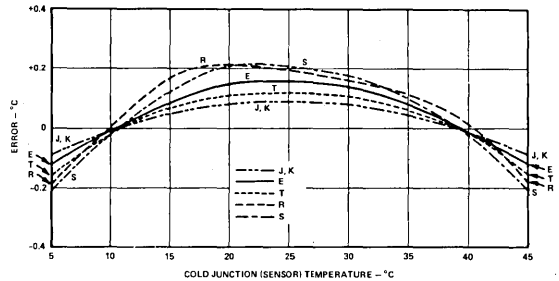

Figure 3. Error Due to Thermocouple Nonlinearity
**Curvature Error:** The voltage output of thermocouples is a nonlinear function of temperature, so the reference junction output which is compensated by the 2B56 is also nonlinear. The correction signal generated by the 2B56, however, is approximately linear. The 2B56 is adjusted internally to give the best fit of its linear correction to the nonlinear reference junction output over the  $+5^{\circ}C$  to  $+45^{\circ}C$  range. The remaining error, which is included in the specifications given on page 2, is shown for each thermocouple type in Figure 3. Note that as a result of thermocouple nonlinearity the error at  $+25^{\circ}C$  will not be zero after calibration is done. The error for a particular thermocouple type could be adjusted to zero at  $+25^{\circ}C$  by appropriate adjustment of the thermocouple amplifier offset, but the improvement will be at the expense of increased errors over the  $+5^{\circ}C$  to  $+45^{\circ}C$  range.